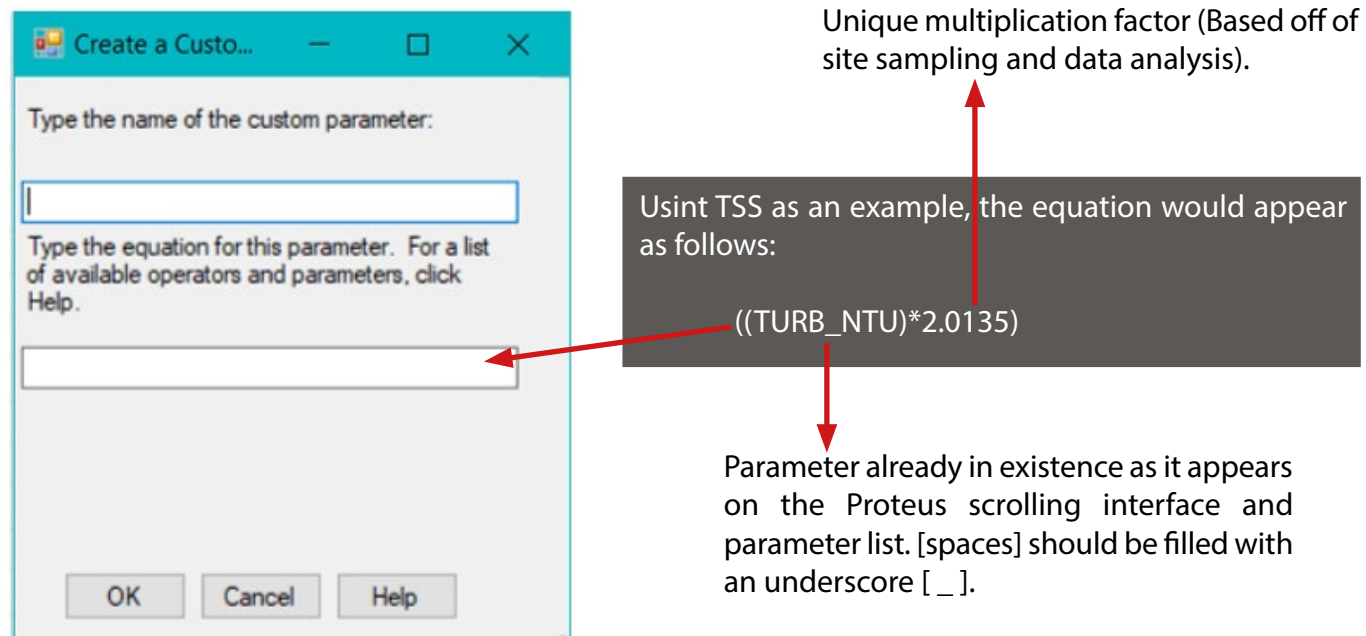

Figure 18: Custom parameter creation dialogue box.
1. Use the hex key provided to loosen the small set screw on the wiper arm (Fig 18).